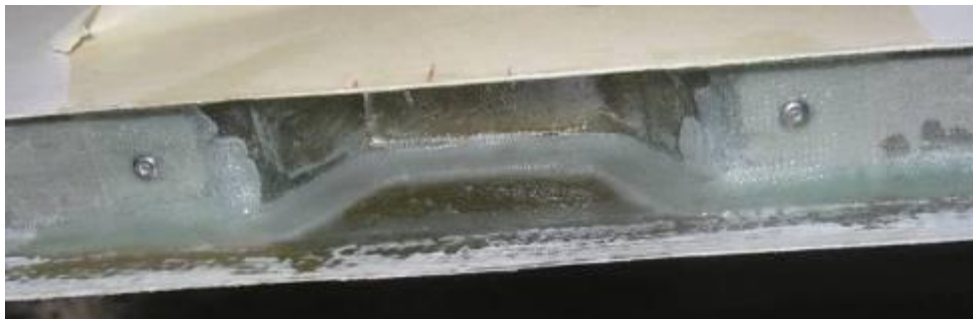

Fig. 3-20
- If there are pockets formed by the Big Ribs i.a.w. [3], they must be bridged with the Fiberglass ribs KD 5520 1073 (Fig. 3-20).